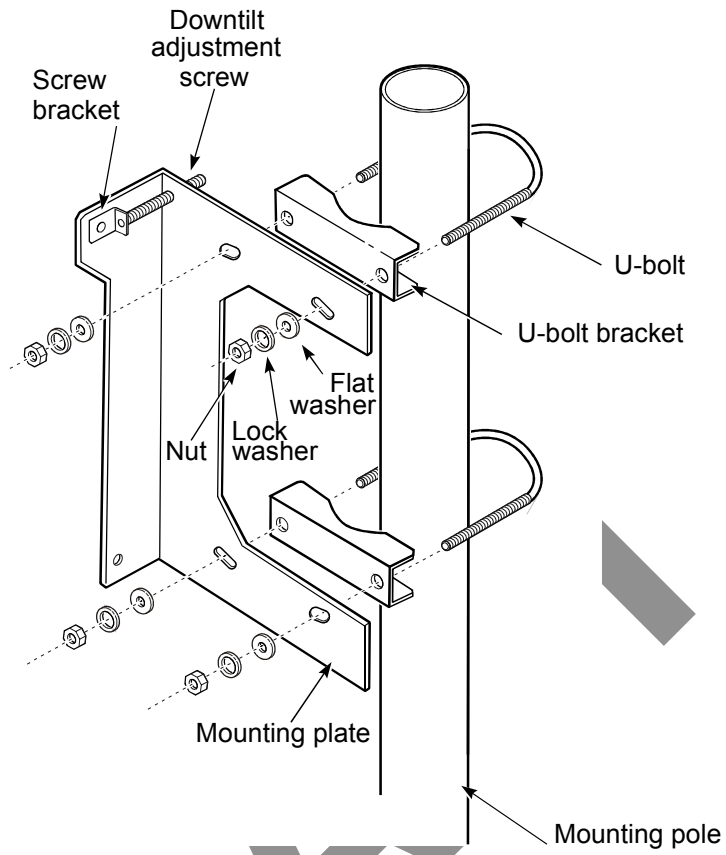

Figure 12 – Connecting the mounting plate to the pole
1. Attach the mounting plate to the pole using the pole mounting hardware, as shown in *Figure 12*, where a single antenna mounting plate is shown.